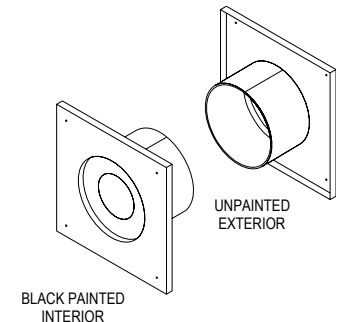

Figure 5
- B. Cut and frame a square opening in the wall as specified in Table 1. The black portion of the Wall Thimble is to be attached to the interior wall, and the unpainted portion is to be attached to the exterior wall. The Wall Thimble adjusts to fit walls from 3"-8" thick (Figure 5).